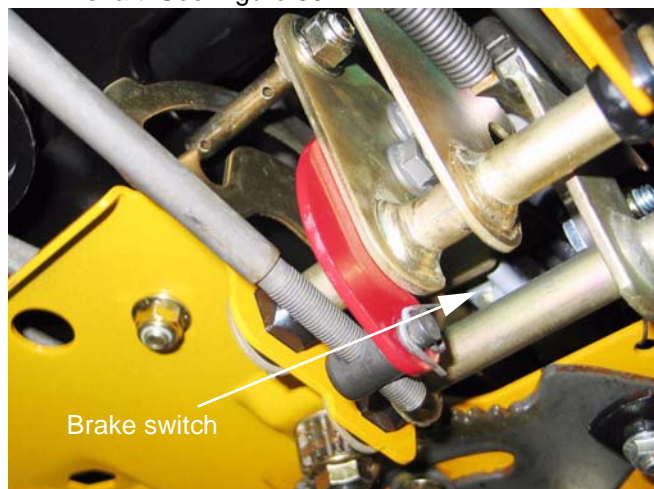

Figure 39.4
39.4. The **Brake Switch** is mounted to the inside of the frame slightly right of the steering shaft. See Figure 39.4.